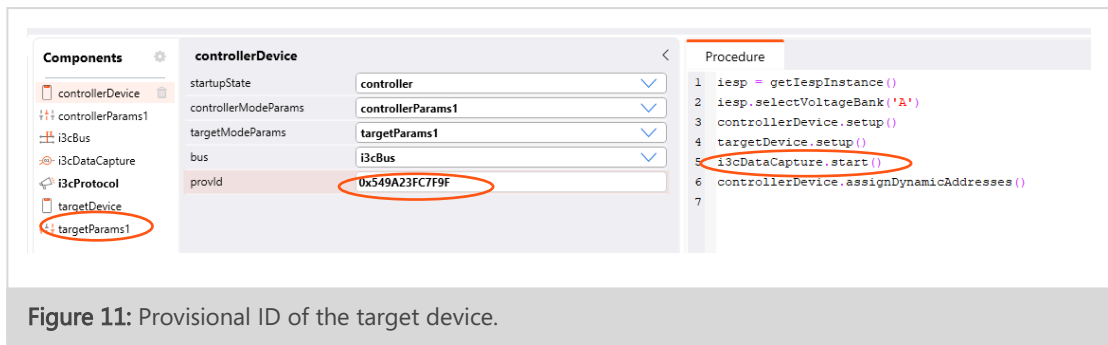

Figure 11: Provisional ID of the target device.
- f) Figure 11 shows an example on the target device component. Every device is associated with a unique 6-byte provisional ID, which is set using the provId attribute on the I3C device component. The provisional ID may be edited, however, in this